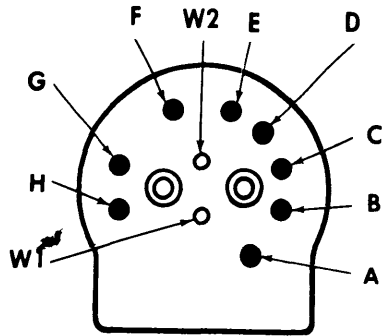

Fig. 12 Pin Type Switch Connector Standard Wipers
**All Models** – Check continuity between switch terminals as shown in Fig. 12 through 17. An ohmmeter must be used to test both systems. To detect marginal operation of the switch, move control knob while each reading is being taken. If switch does not indicate continuity as shown or poor continuity exists during movement, replace switch.